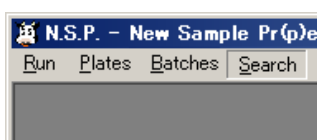

Fig. 9.1-1
- (1) Click "Search" in the menu bar (Fig. 9.1-1) to open the 'Search' screen. (Fig.9.1-2).